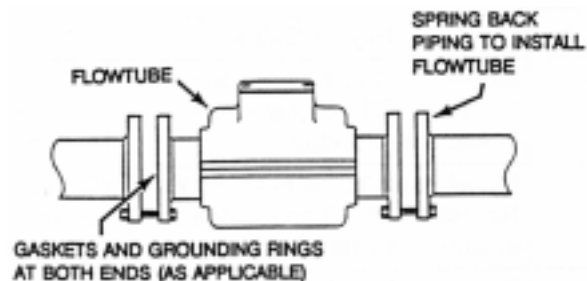

Figure 10. Installing Flowtube into Pipeline
- b. Refer to Figure 10. Spring back piping to allow clearance as necessary to insert flowtube without causing damage to lining.